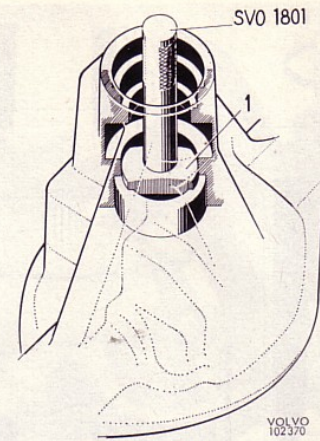

Fig. 30. Removing rear pinion bearing ring
9. If necessary, drive out the rear bearing outer ring, see Fig. 30. Use standard handle SVO 1801 and drift SVO 2690 for the Spicer 23 final drive units and SVO 2598 for the other types of final drives.